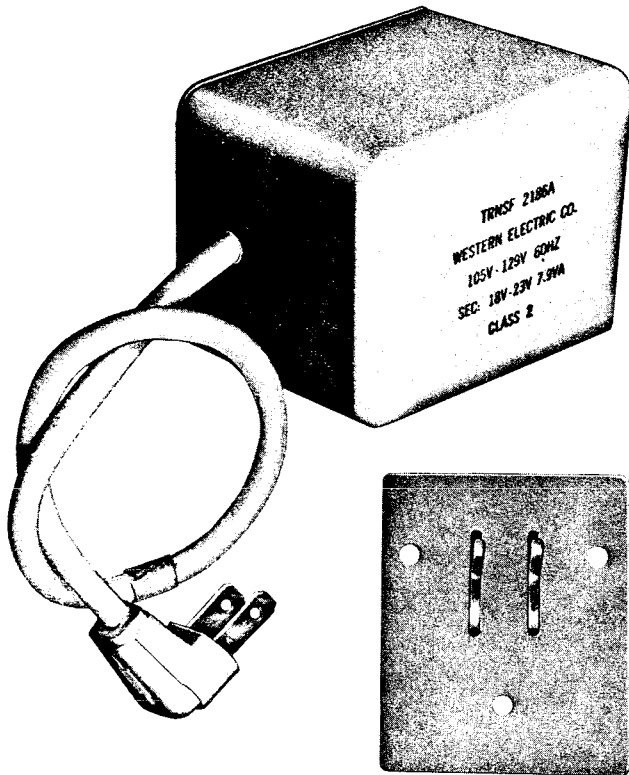

Fig. 7—2186A Transformer
6.01 The 2186A transformer (Fig. 7) supplies power for the 700A and 700B subscriber sets.